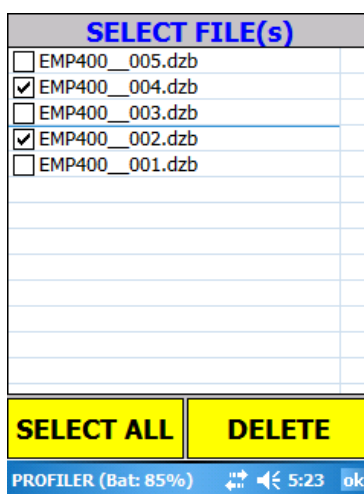

Figure 75: Delete File menu.
To delete a file, groups of files or an entire directory of files, select **Review Data > Delete Files**. The Delete File menu display will appear (Figure 75).
- To delete groups of files (Figure 75), select the boxes next to the files to be deleted, and then tap **Delete**.